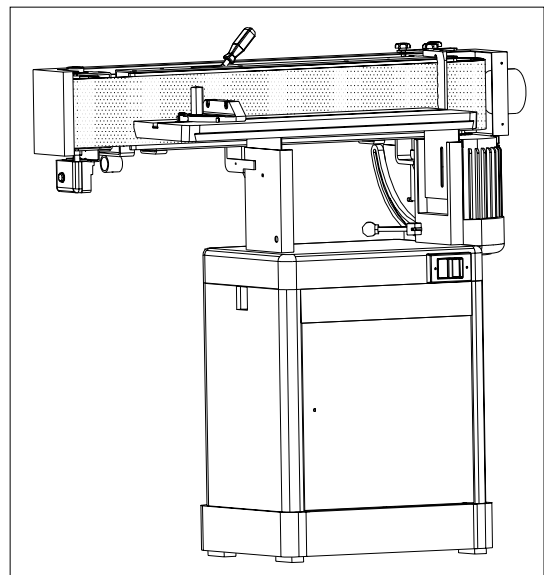

Fig: 4
1. SANDING TABLE CAN BE ADJUSTED 90° - 180° ,SEE FIG.4
2. ADJUST CLAMP HANDLE (B) AT DESIRED TO CHANGE NEW BELT. SEE FIG.4
3. LOOSEN ANGLE LOCK KNOB(A) TO SET AND TIGHTEN THE ANGLE.